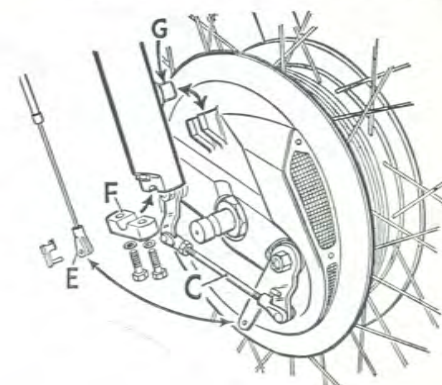

FIG. 26.
A two leading-shoe brake is used in the front wheel and the shoes are correctly set before leaving the factory. It should not be necessary to adjust the coupling rod (C) Fig. 26, until such time as the shoes are replaced. Details of this operation are given in the Workshop Manual.
removing the spring clip from the clevis (E) Fig. 26, on the brake lever.
Lower the wheel to the ground and when the brake plate is clear of the tongue (G) Fig. 26, on the fork leg, the wheel can be removed.